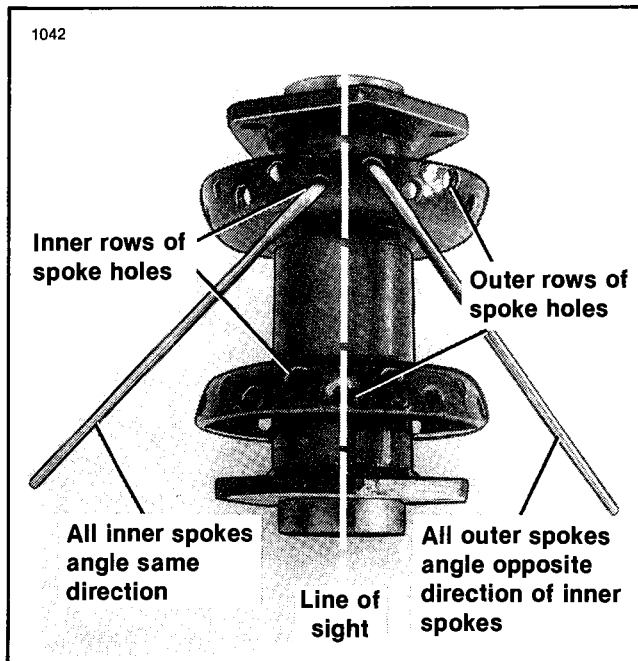

Figure 1. Hub
1. See Figure 1. To identify a late style hub, pick any outside spoke hole and sight straight across the hub. The first spoke hole to the right of the center-line is an outside spoke hole.
3. See Figure 1. Insert 10 spokes into the upper flange inner spoke holes. Swing the loose ends in the same direction as far as the hub will allow.